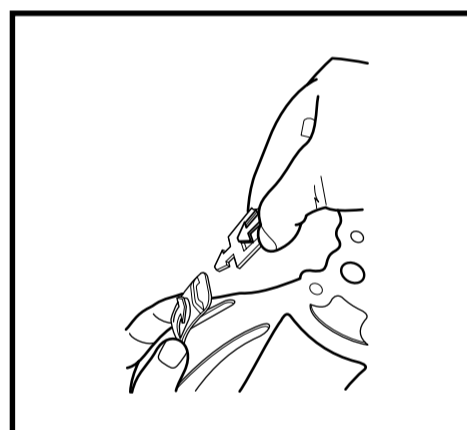

Figure 2
3. Assemble the Latch Connection by fastening the Latch and Snap together. (See Figure 2)